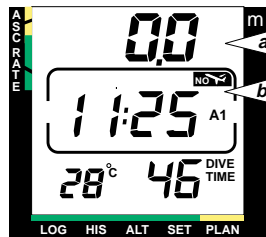

Fig. 3.20 SURFACE MODE AFTER A DIVE, DISPLAY II
Display II (Fig. 3.20)
- The present depth in meters [ft] (Fig. 3.20, a).
- The desaturation/ no-flying time in hours and minutes is shown next to the non-blinking airplane in the center window of the display (Fig. 3.20, b).